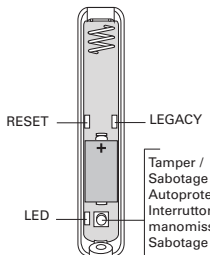

Fig. 3 / Abb. 3 / afb. 3: PCB
3. Configure the links (see Fig. 3):